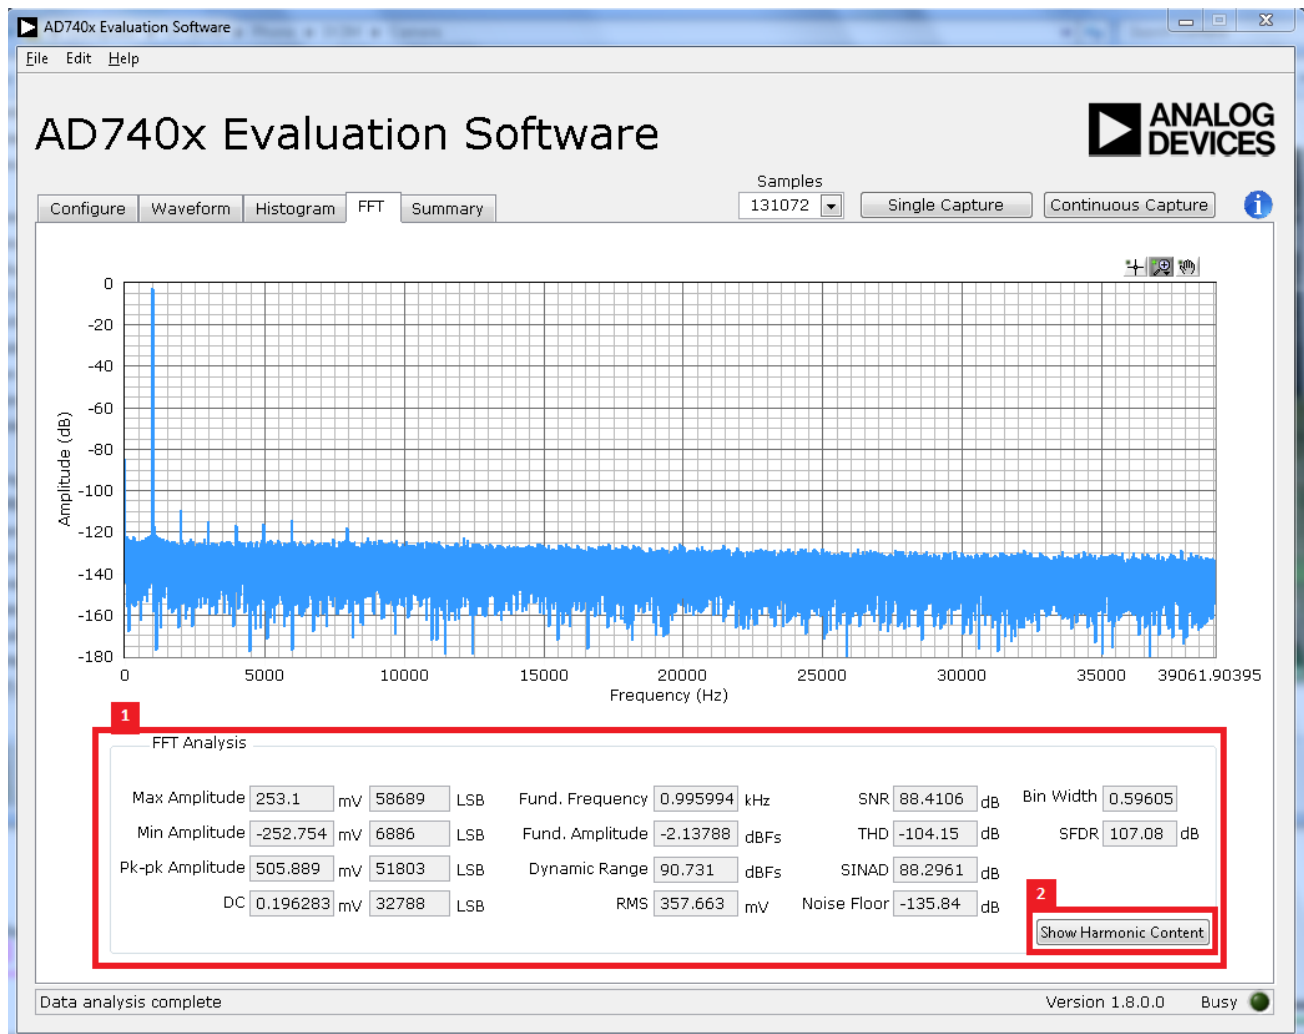

Figure 18. FFT Capture Tab
Figure 18 shows the FFT tab. This feature tests the traditional ac characteristics of the converter and displays a fast Fourier transform (FFT) of the results.
Figure 18 displays the spectral analysis results of the captured data.
- The **FFT Analysis** box displays the performance data: SNR, THD, SINAD, dynamic range, and noise performance along with the input signal characteristics (see label 1 in Figure 18).
- Clicking **Show Harmonic Content** (see label 2 in Figure 18) displays the frequency and amplitude of the fundamental in addition to the second to fifth harmonics.